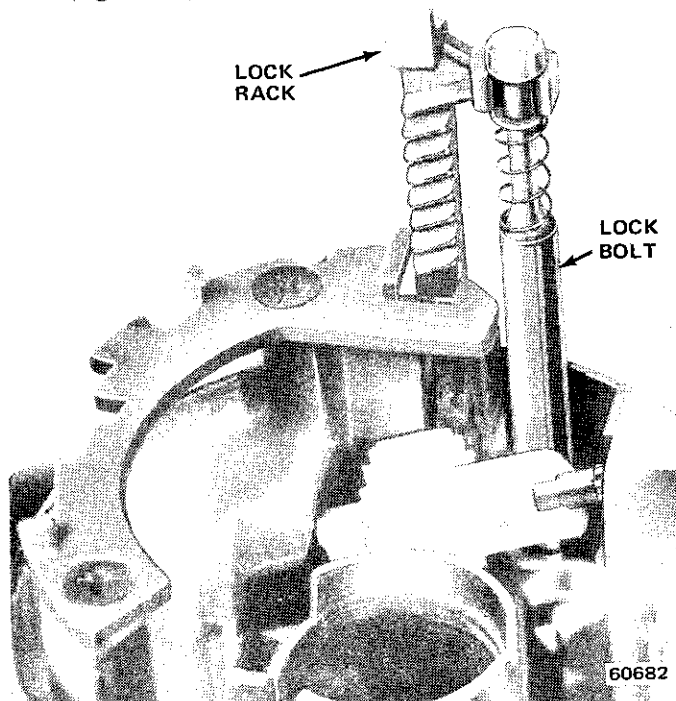
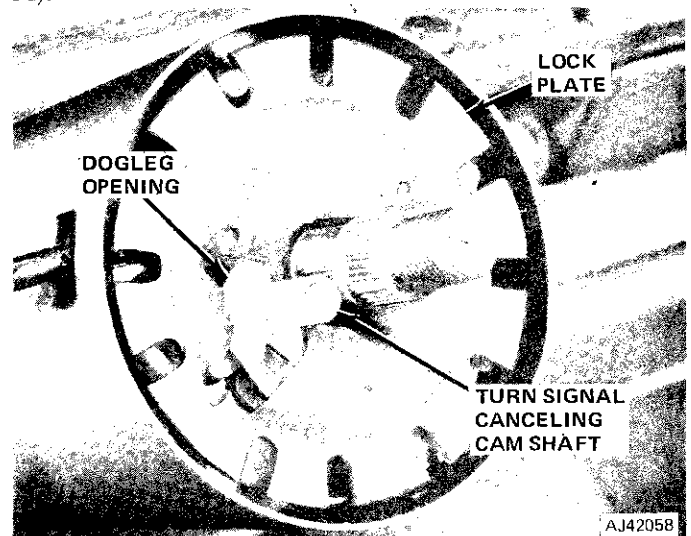

Fig. 2J-33 Lock Rack and Lock Bolt Installation
Fig. 2J-34 Canceling Cam and Lock Plate Position
- (10) Install shift quadrant lamp and install lamp cover.
- (11) Install shift quadrant indicator and press retainer clips into place with flat side toward bowl.
- (12) Assemble lock bolt and lock rack (fig. 2J-18).
- (13) Install assembled lock bolt and lock rack in shift bowl (fig. 2J-33).
**NOTE:** Block tooth of lock rack must engage block tooth of sector (fig. 2J-19).
- (14) Install nylon thrust cup in upper housing with flared end of cup facing outward (fig. 2J-28).
- (15) Rotate shift bowl counterclockwise to stop and install upper housing. Tighten housing attaching screws to 60 inch-pounds (7 N•m) torque.
- (16) Guide shift quadrant lamp wire and remote lock rod into position between shift bowl and column jacket.
- (17) Install turn signal switch and harness assembly in column.
- (18) Remove tape from turn signal switch wire harness connector and position harness in protector and protector-to-column jacket.
- (19) Install turn signal switch retaining screws. Be sure switch actuating lever pivot is correctly aligned and seated in upper housing pivot boss before installing screws.
- (20) On vehicles without Cruise Command, install turn signal lever and lever attaching screw. Tighten screw to 35 inch-pounds (4 N•m) torque.
- (21) On vehicles with Cruise Command, install turn signal lever and switch assembly. Guide wires into housing using string previously taped in place. Remove string and tape. Connect wires to switch terminals. Install lever attaching screw and tighten screw to 35 inch-pounds (4 N•m) torque.
- (22) Install steering shaft if removed. Install shaft through lower end of column and into upper bearing.
- (23) Install thrust washer, upper bearing preload spring, and canceling cam on upper end of steering shaft.
- (24) Align lock plate splines with steering shaft splines and install lock plate. Be sure canceling cam shaft protrudes through opening in lock plate (fig. 2J-34).
(25) Install replacement steering shaft snap ring on sleeve of Lock Plate Compressor Tool J-23653 and install tool on steering shaft (fig. 2J-25).
**CAUTION:** *Inspect and identify the steering shaft nut thread type before installing the compressor tool. If the shaft has metric threads (fig. 2J-2), be sure to replace the compressor tool standard forcing screw with Metric Forcing Screw J-23653-4 before installing the tool on the shaft.*
(26) Compress lock plate and seat snap ring in steering shaft groove.
(27) Remove compressor tool.
(28) Install lock plate cover.
(29) Align canceling cam and index marks on steering shaft and steering wheel and install steering wheel. Tighten steering wheel nut to 30 foot-pounds (41 N•m) torque.